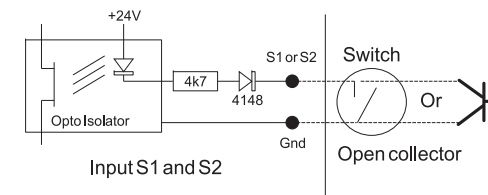

Figure 2
**External reset:** S1 is connected to Gnd by the use of a switch or optocoupler output See fig. 2.